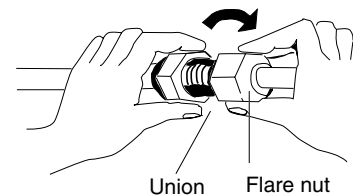

Fig. 7-5
- (3) For proper connection, align the union tube and flare tube straight with each other, then screw in the flare nut lightly at first to obtain a smooth match. (Fig. 7-5)